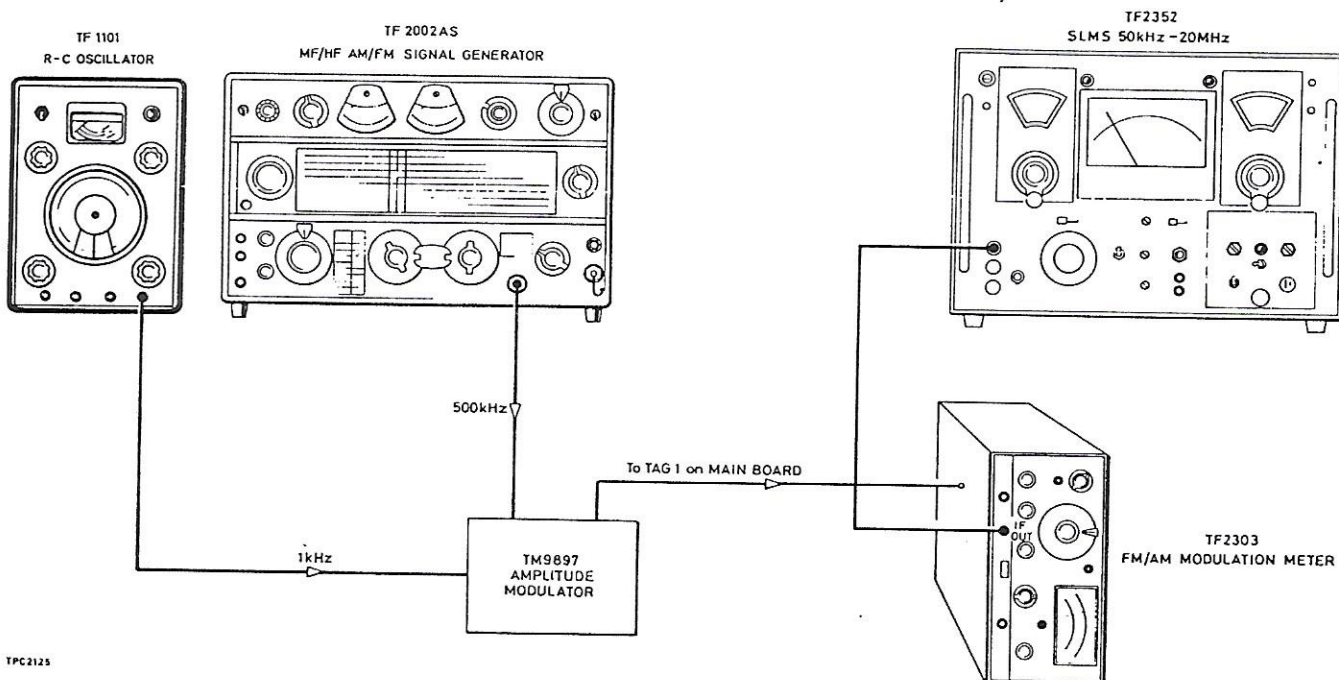

Fig. 5.4 Checking a.m. depth
- (1) Connect the equipment as in Fig. 5.4.
- (2) Set the modulation depth to 80% by measuring the 500 kHz carrier level then setting the 501 kHz sideband to -7.96 dB relative to the carrier. Adjust TF 2303 LEVEL and set up the modulation meter so that it measures a. m. depth. The meter should read 80%. Adjust R65, if necessary, then switch between AM PEAK and AM TROUGH and readjust R65 for compromise between peak and trough.
- (3) Check at 50% and 30% depth - see Table 5.1 for sideband amplitudes.